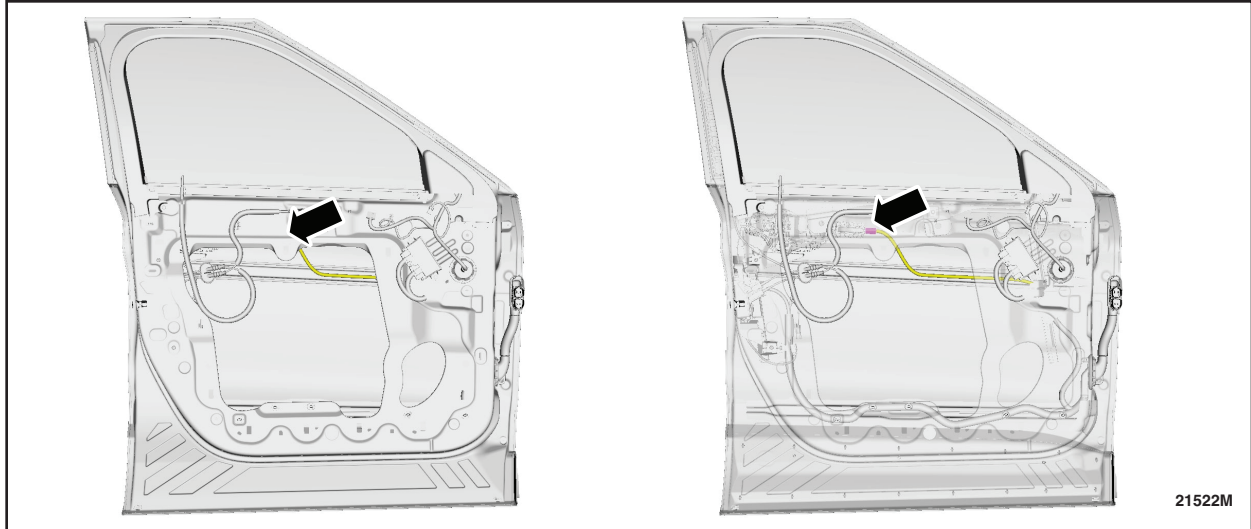

**FIGURE 7**
10. Route the interior door handle cable, door lock indicator cable and grommet through the front door window regulator and remove the front door window regulator. See Figure 7.